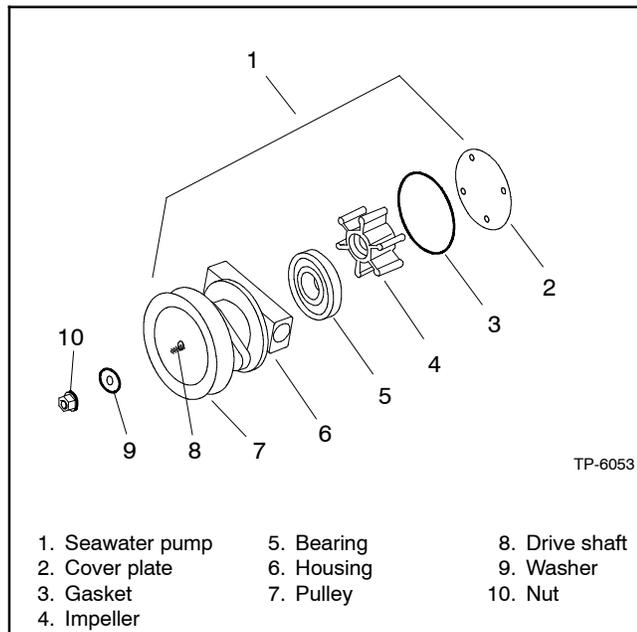

Figure 3-2 Seawater Pump, Typical
5. Remove the seawater pump cover plate. See Figure 3-2.